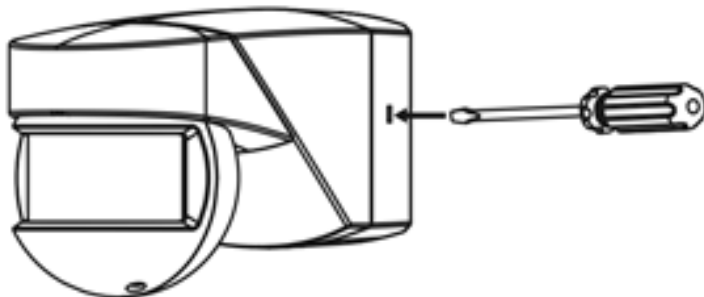

Fig 1
- Using a slotted screwdriver, push on the base release tabs and pull the sensor away from the base (see Fig 1)